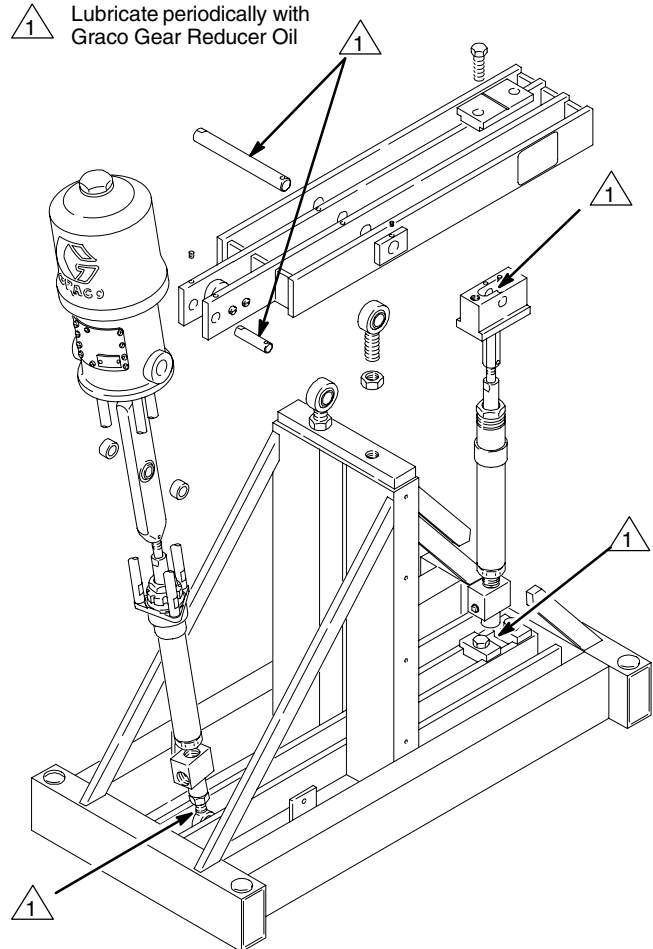

Fig. 9
2. Insert one end of the nylon hose (52) into the wet-cup.
3. Pour Throat Seal Liquid (44) into the hose until the wet-cup is full.
4. Lubricate the VRHC periodically with Graco Gear Reducer Oil (43). If the pump is operating continuously at 60 cycles/min., lubricate at the points shown in Fig. 9 once every five days.